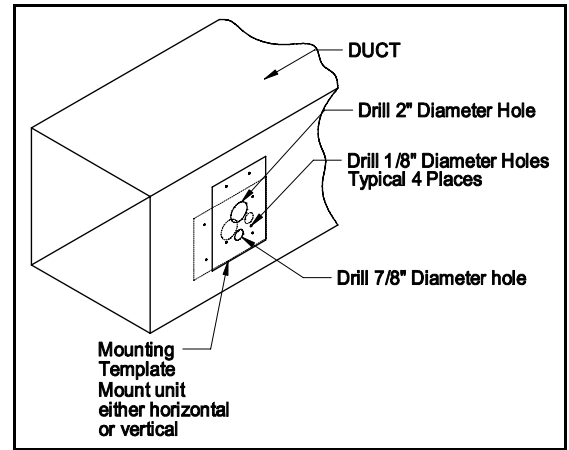

Figure 2
- Apply supplied wet and stick mounting template to air duct in either a vertical or horizontal position as shown in Figure 2.
- Cut out the marked openings on the template. (Refer to template as shown in Figure 2)
- Mount the supplied metal mounting plate onto the duct with duct tape in either a vertical or horizontal position (See Figure 2 & 3)